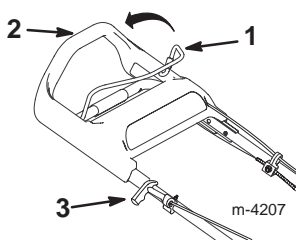

Figure 12
3. Hold the blade control bail against the upper handle (Fig. 12).
- A. Pull the starter handle lightly until you feel resistance, then pull it sharply (Fig. 12).